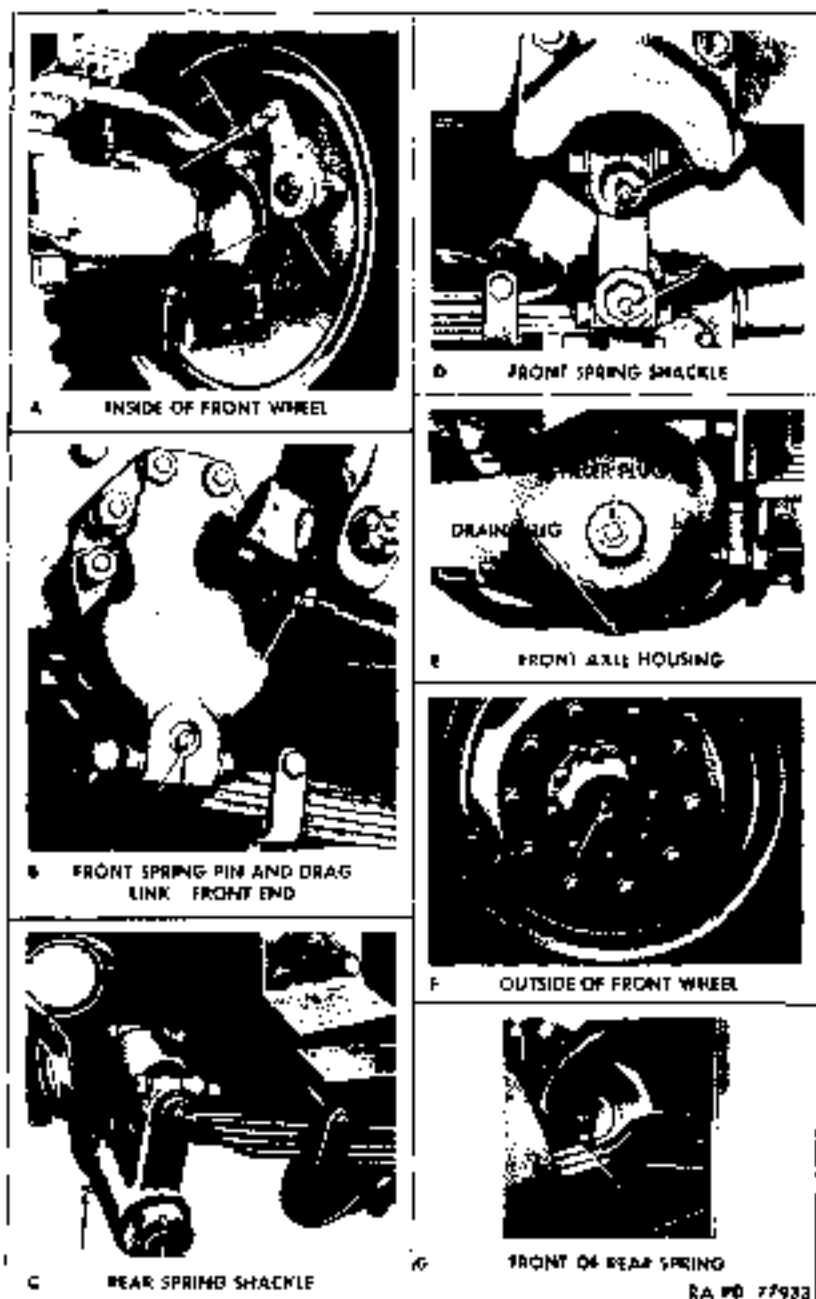
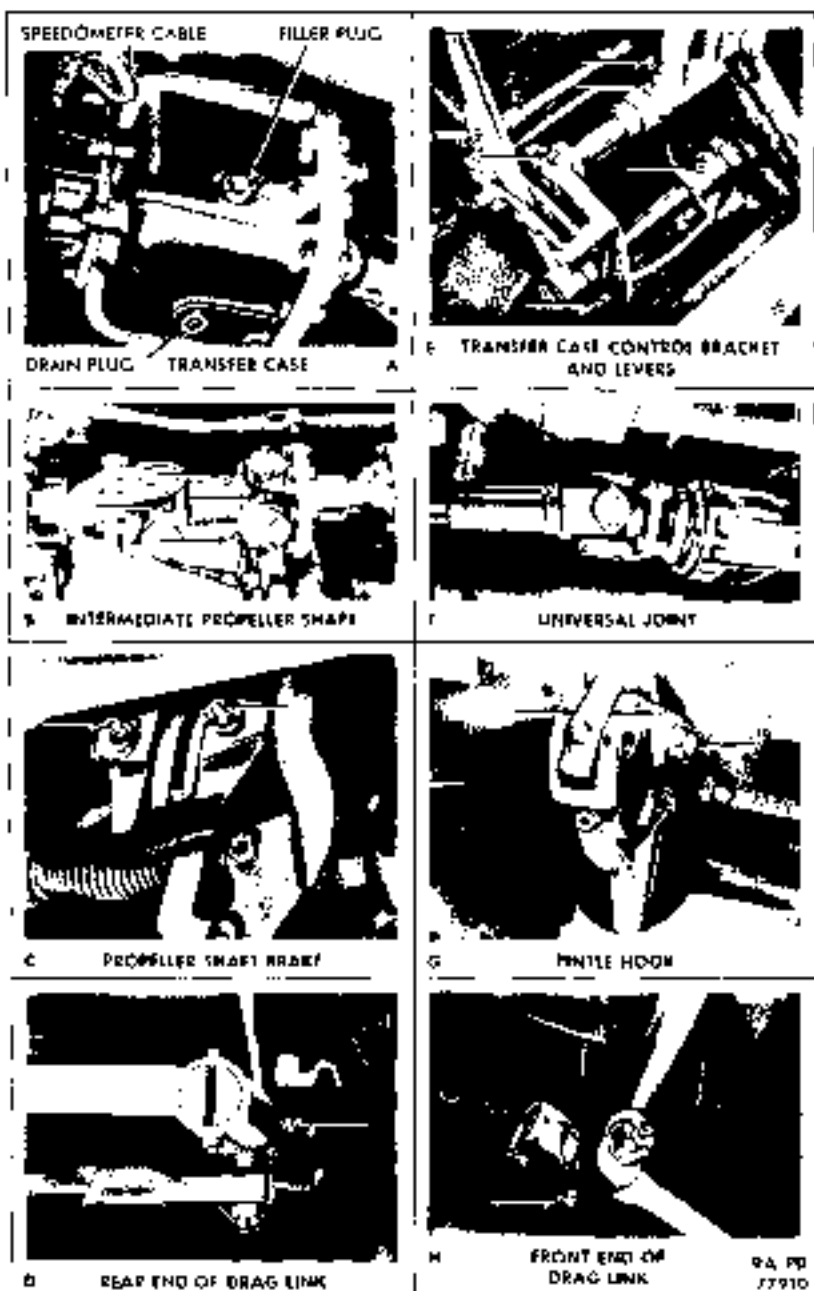

Figure 8 - Wheels, Axles, and Springs - Lubrication Points
Figure 9 - Miscellaneous Lubrication Points
(7) **GEAR CASES (A and F, fig. 7, E, fig. 8; A, fig. 9).** Weekly, check level with truck on level ground and, if necessary, add lubricant to within 1/2 inch of plug level when cold, or to plug level when hot. Drain and refill at intervals indicated on guide. Drain only after operation. Keep housing vents clean. Transmission has "SUMMER" and "WINTER" level markings at filler plug.
(8) **UNIVERSAL JOINTS (FRONT WHEELS) (A, fig. 8).** With truck on level ground, remove plug on under side of joint; also remove plug in wheel hub and install fitting. Fill through fitting to level of plug hole. Remove fitting and reinstall plug.
(9) **UNIVERSAL AND SLIP JOINTS (B and F, fig. 9).** Apply GREASE, general purpose, No. 1 above +32°F. and No. 0 below +32°F. to universal joint until it overflows at relief valve, and to slip joint until lubricant is forced from vent at universal joint end of spline.
(14) **OILCAN POINTS (4, fig. 9).** Every 1,000 miles, lubricate throttle and spark control rod ends, clevises, hinges, latches, air compressor rocker arm shaft, pintle hook, and hand brake linkage with **OIL**, engine, SAE 30 above -32°F . or SAE 10 $+32^{\circ}\text{F}$. to 0°F .. Below 0°F ., use **OIL**, lubricating, preservative, special.